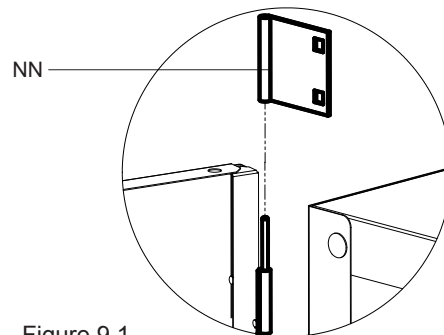

Figure 9.1
- Slide the hinge plate NN onto the upper door hinge pin LL. (Figure 9.1)
- Attach the left door E as shown, by mounting the upper hinge NN, using (2) AA, (2) CC and (2) DD.